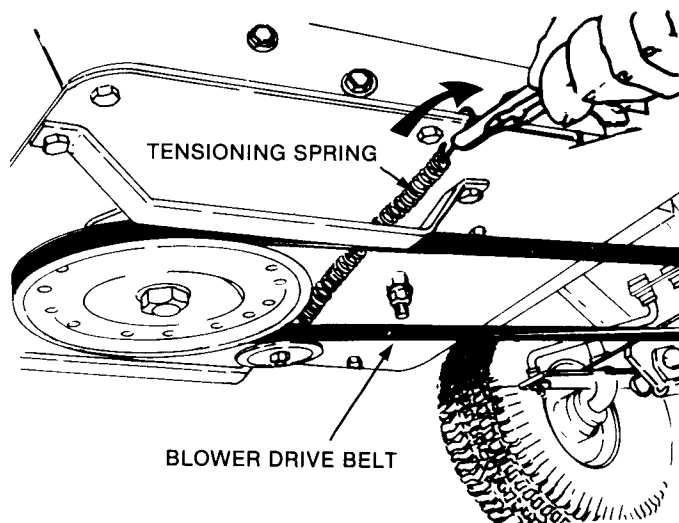

FIGURE 9 - UNHOOK BLOWER BELT SPRING
STEP 4: Unhook the blower belt tensioning spring from the right edge of the carrier and slip the belt off the pulley on the underside of the carrier (Figure 9).